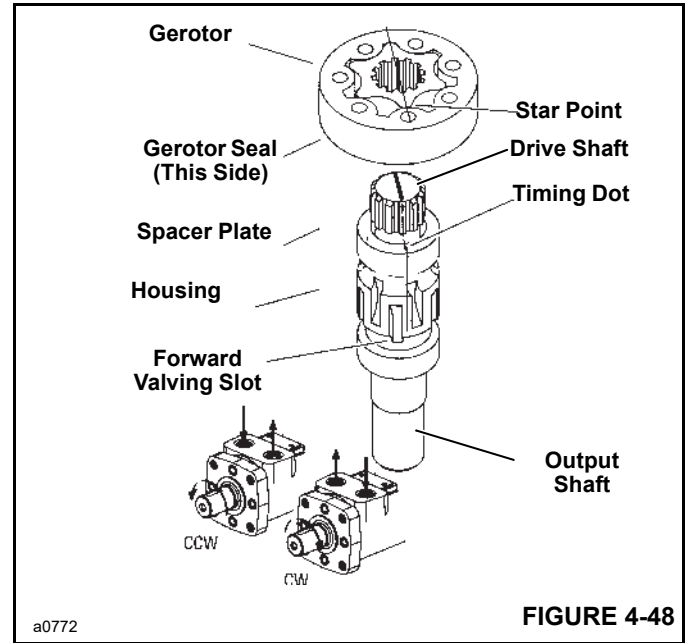

FIGURE 4-48
15. Install drive shaft (14, Figure 4-39). Use a felt tip pen to mark one drive tooth. Align this mark with the timing dot on the output shaft (Figure 4-48).
17. Install seal 13 in gerotor seal groove. Carefully place gerotor on spacer plate, seal side toward the spacer plate. Align any star point with tooth marked on drive shaft (Figure 4-48).